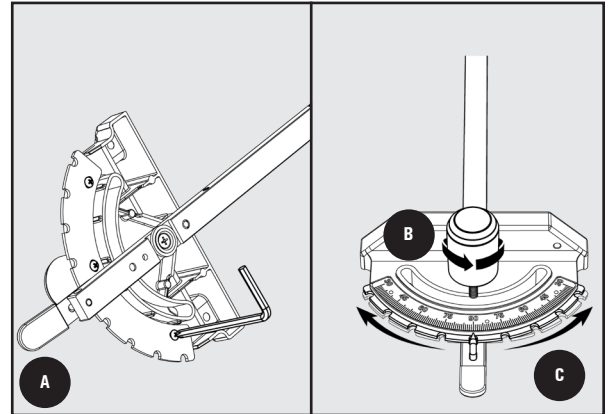

Figure 31
1. Use the supplied 3/16 inch two-way Allen wrench to loosen the three Phillip screws located in the back of the miter gauge, see in Figure 31 **A**.
2. Loosen the knob, see in Figure 31 **B**.
3. Adjust the detent plate so that the indicator measures the correct angle, see in Figure 31 **C**.